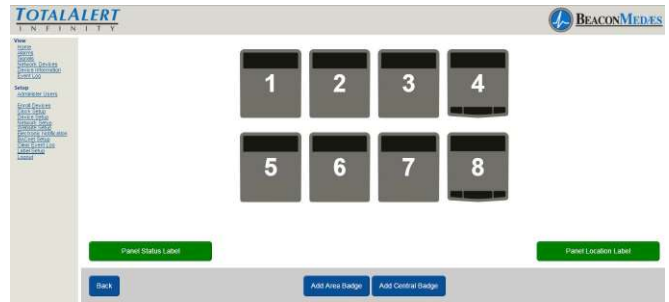

Figure 285
2. Setup display is similar to what is displayed on the alarm home screen. (See Figure 285) To Setup panel status label, select "Panel Status Label" button.